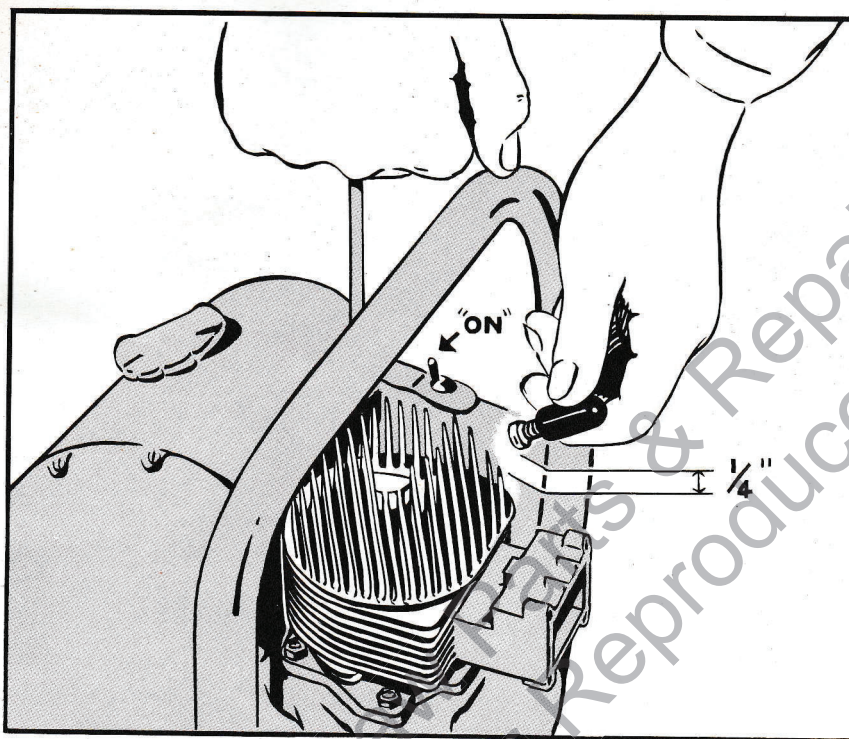

Figure 10 — Testing for Spark
(3) Clean both the porcelain and the electrodes and adjust the electrode gap to .025". If the electrodes are badly burned or porcelain is cracked, replace with a new Champion J 6 J (HOMELITE No. 40190-S)
(4) If the spark plug is wet, it indicates excess fuel in the cylinder, If the spark plug is oily, there is either too much oil in the fuel, or the engine is running rich for some reason. (The first thing to suspect in this case is a clogged air filter.)
(5) While the spark plug is removed from the cylinder, it is easy to test ignition spark. (See Figure 10.)